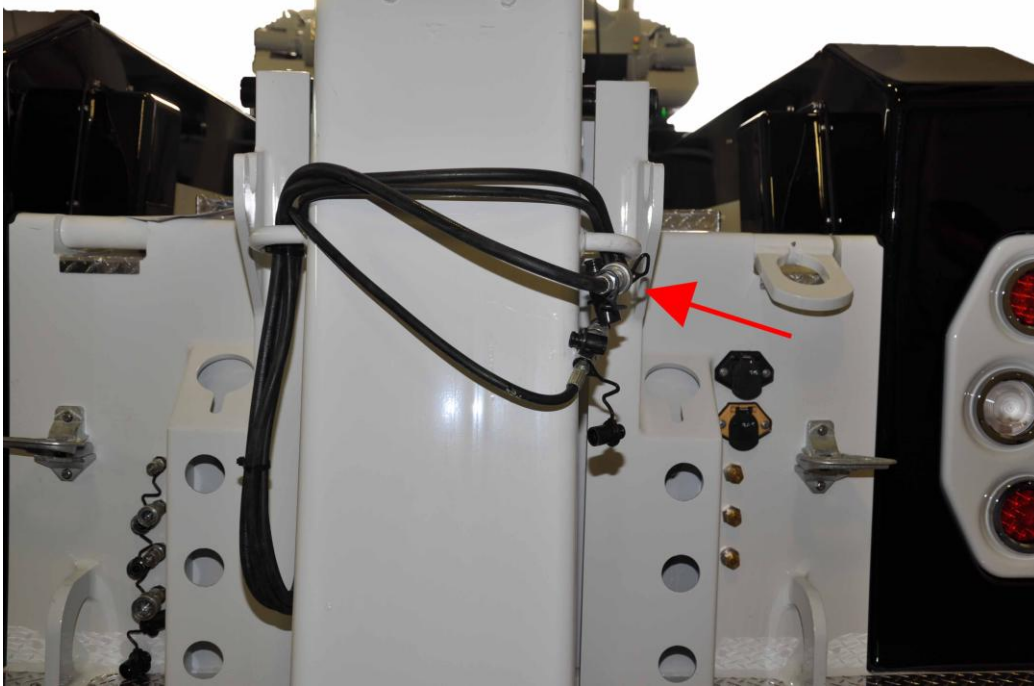

Figure 20 – Attaching the Hydraulic Lines to the Eye
5. Disconnect the nine hydraulic lines (four on one side and five on the other side) that connect the axle-lift extension to the body. Attach them, two-by-two, to the eye near the bottom of the axle-lift. This is shown in Figure 20. Alternatively, put the protective covers over the exposed ends of all lines before attaching them to the eye.